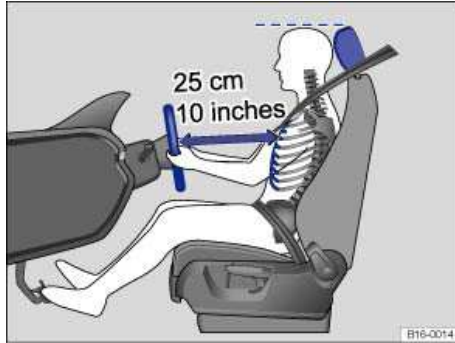
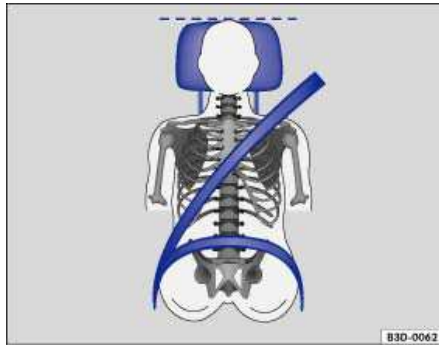

Fig. 33 The driver should never sit closer than 10 inches (25 cm) of the steering wheel.
Fig. 34 Proper safety belt positioning and head restraint adjustment.
- Adjust head restraints so that the upper edge of the head restraint is at least at eye level or higher. Position the back of your head as close as possible to the head restraint ⇒ fig. 33 and ⇒ fig. 34.
- Adjust the steering wheel so that there are at least 10 inches (25 cm) between the steering wheel and your breast bone ⇒ fig. 33. When adjusting the proper distance to the steering wheel, grasp the top of the steering wheel with your elbows slightly bent.